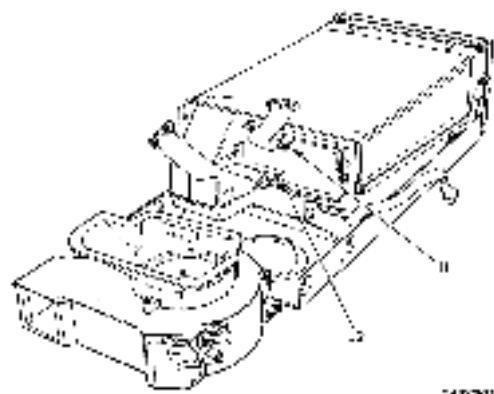

Figure 4-22. Preamp Module Connections
1. Transfer two short cables at preamp connectors J1 and J2 (Figure 4-22) of original drive mechanics assembly to replacement assembly.